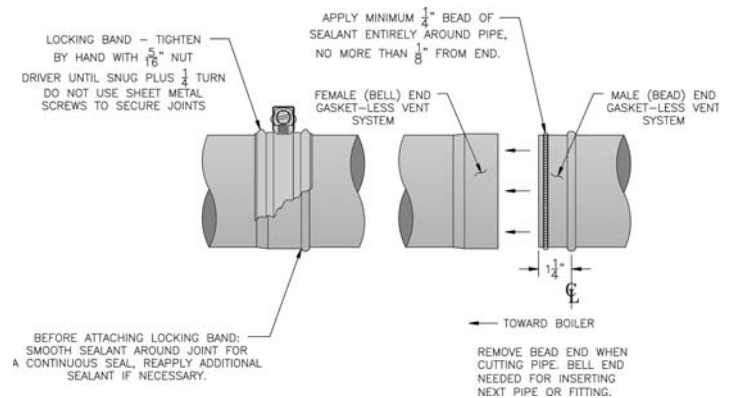

Figure 10A: Burnham Gasket-Less Vent Joint
- Procedure for Joining Burnham Gasket-Less Vent Pipe and Fittings. See Figure 10A.